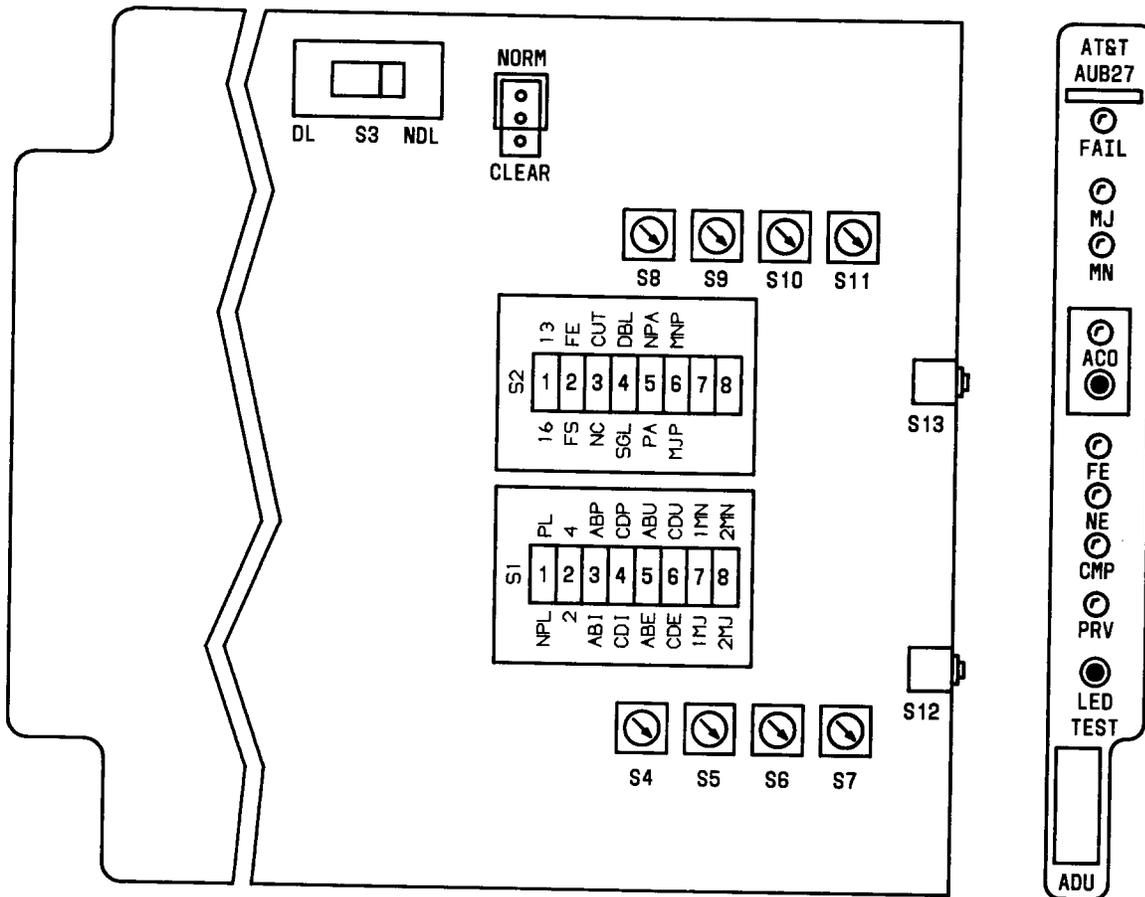

Fig. 1—AUB27 RT ADU Option Switch Settings
3. At RT on ADU circuit pack, set switches on option switch S1 (Figure 1) as follows: On option switch S1, press switch position 3 toward ABI, switch position 4 toward CDI, switch position 5 toward ABE, and switch position 6 toward CDE. Proceed to Step 5.
4. At RT on ADU circuit pack, set switches on option switch S1 (Figure 1) as follows: